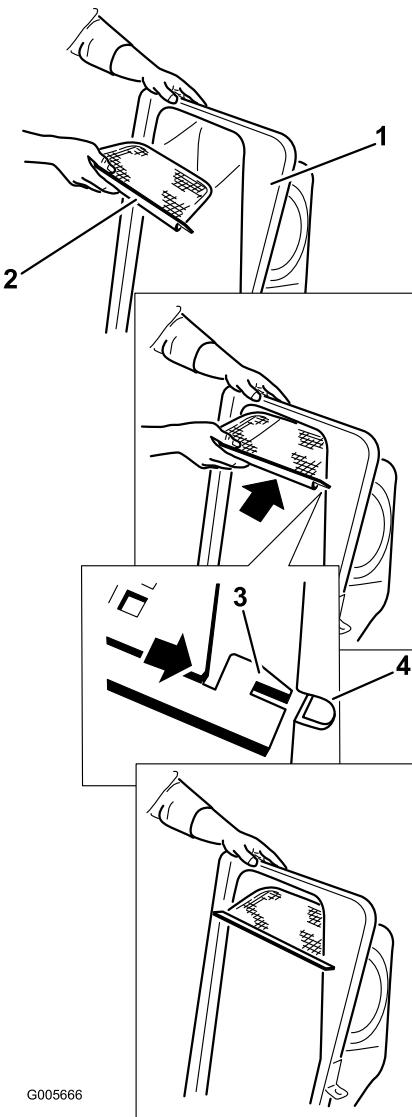

Figure 15
2. Install the screen as shown in Figure 15 and that it slopes down toward the collection bags.